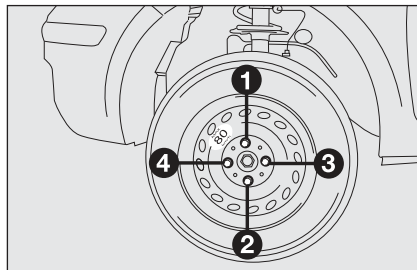

fig. 6
- use the wrench provided to fasten the bolts completely in a criss-cross fashion as per the order illustrated in **fig. 6**;